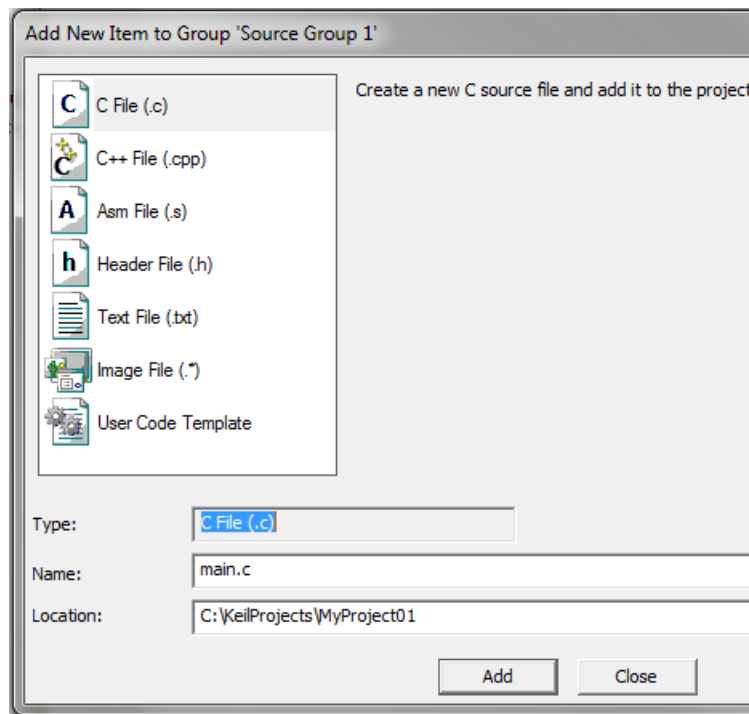

Figure 1-35. Adding new source file dialog
2. Select the C File (.c) option, and type a name of the file into the Name box, for example '*main.c*'. See Figure 1-35.